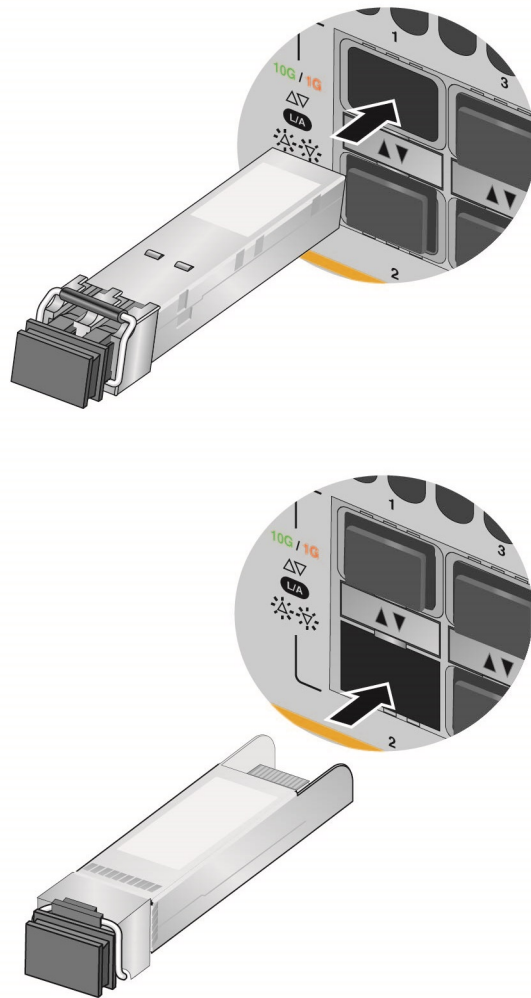

Figure 79. Installing an SFP Transceiver
4. If you are installing the transceiver in a top slot, position the transceiver with the Allied Telesis label facing up. If you are installing the transceiver in a bottom slot, position the transceiver with the label facing down. Refer to Figure 79 on page 169.